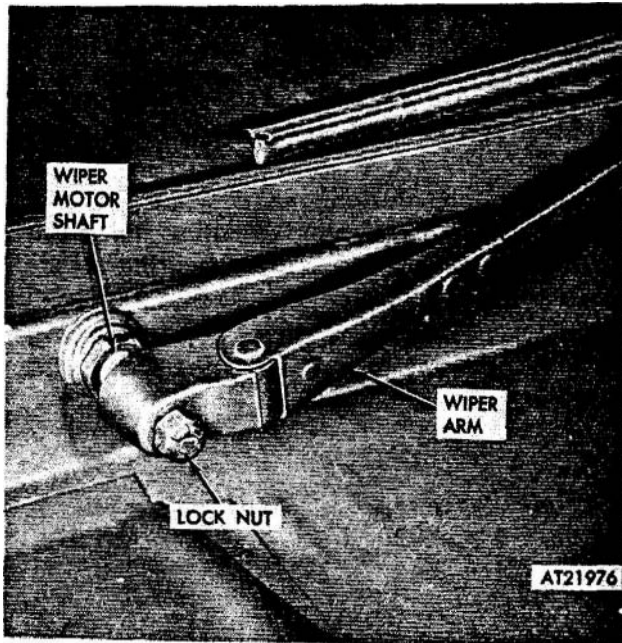

Figure 2-324. Windshield wiper arm, removal and installation.
(1) Note position of blade for reinstallation purposes and remove nut securing arm and blade assembly to wiper motor drive shaft. Remove wiper arm and blade assembly (fig 2-324).
(2) Remove blade from arm (refer to para 2-226).
- (1) Install blade on arm (refer to para 2-226).
- (2) Position blade and arm assembly on wiper motor drive shaft in same location as before removal. Install nut finger tight and turn wiper motor switch "ON." Check assembly for proper operation and correct arm assembly positioning. Remove nut and reposition arm and blade assembly if required. Tighten nut securing wiper arm and blade assembly to motor drive shaft (fig 2-324).